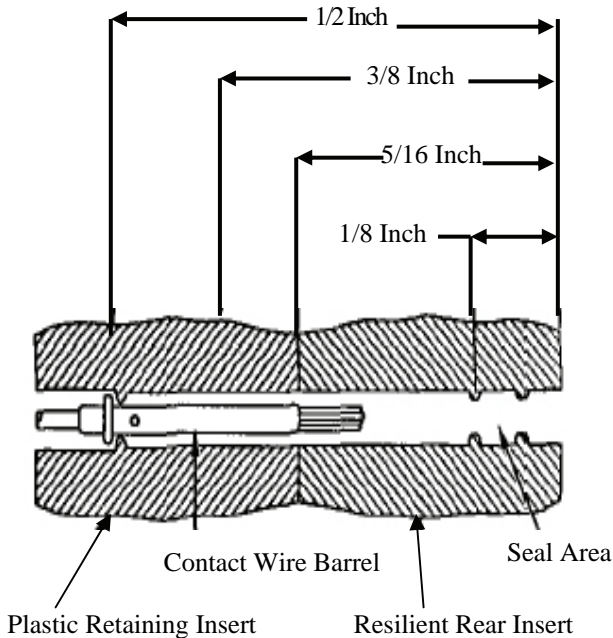

Figure 26. Typical Connector Dimensions
Refer to figure 26 for approximate dimensions of a size 22 contact and cavity.
- d. If resistance is felt before removal tool reaches back end of contact, withdraw tool slightly, rotate about 1/6 of a turn, and reinsert tool. Repeat rotating and insertion procedure until tool passes with minimum additional force to 5/16-inch depth back end of contact (Figure 26 and 27).